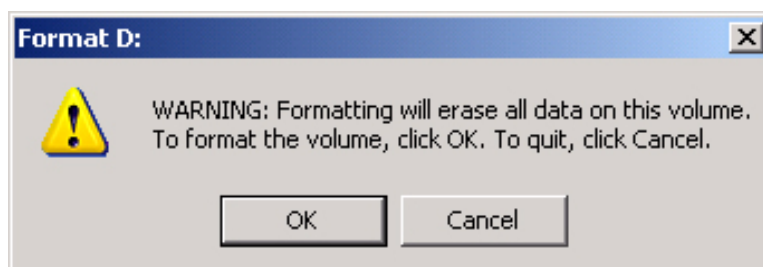

FIGURE 6-39. Format D: Warning Dialog Box.
17. The *Format D:* warning dialog box appears. Click **OK**. See Figure 6-39.